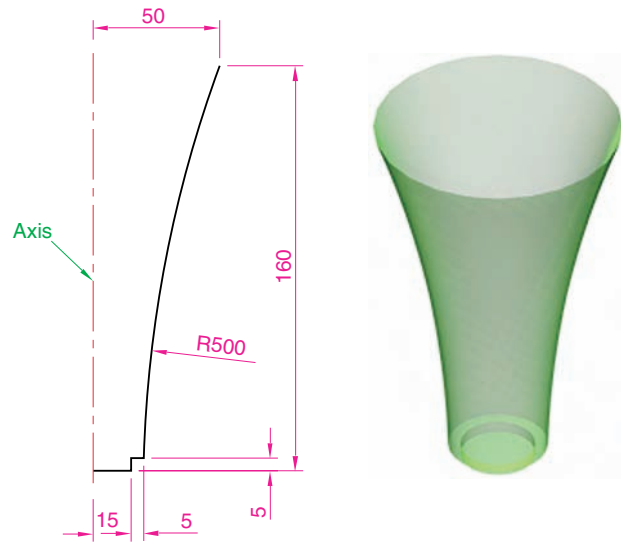

Fig. 19.25 Fourth example of 3D models
Fourth example (Fig. 19.25)
1. ***FRONT***. Construct the polyline – left-hand drawing of Fig. 19.25.
4. **SW Isometric**. Render (right-hand illustration of Fig. 19.25).